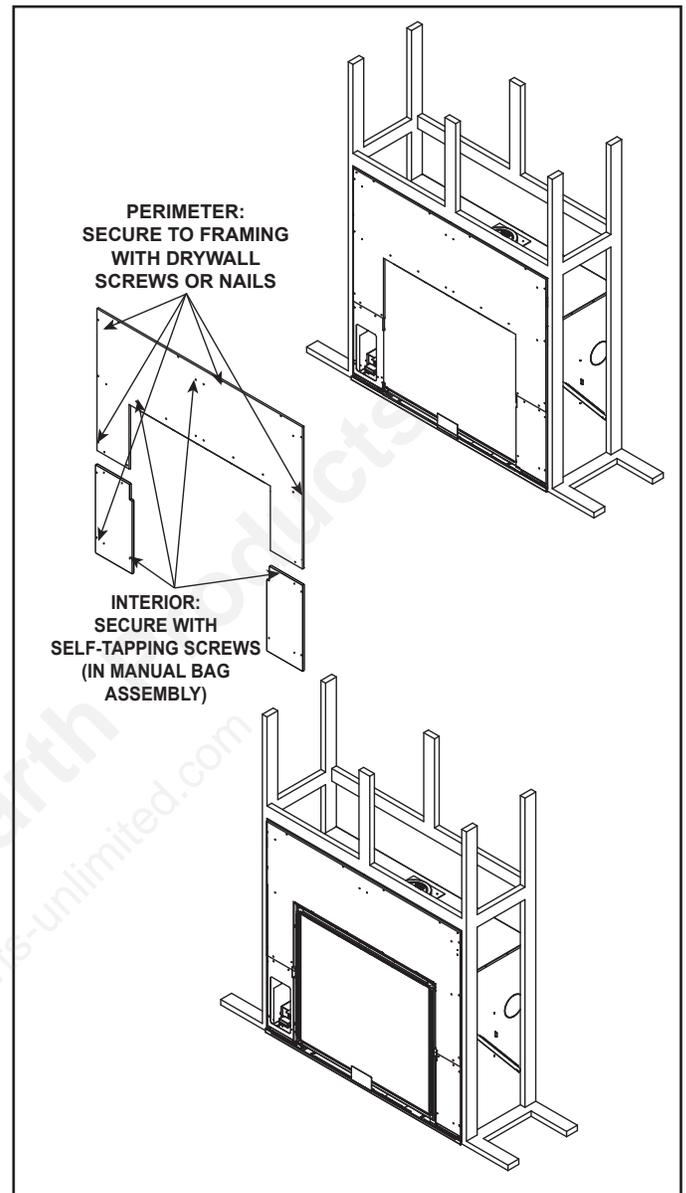

Figure 6.6 Installing Non-Combustible Facing Material
- Install lower left and right non-combustible legs and top non-combustible with screws supplied in the manual bag assembly. See Figure 6.6.
- Use fasteners from fastener packet (in manual bag) for screws that secure to the fireplace. See Figure 6.6.
- Use regular sheetrock screws or nails to secure the perimeter of the non-combustible facing materials to the wood framing. See Figure 6.6.